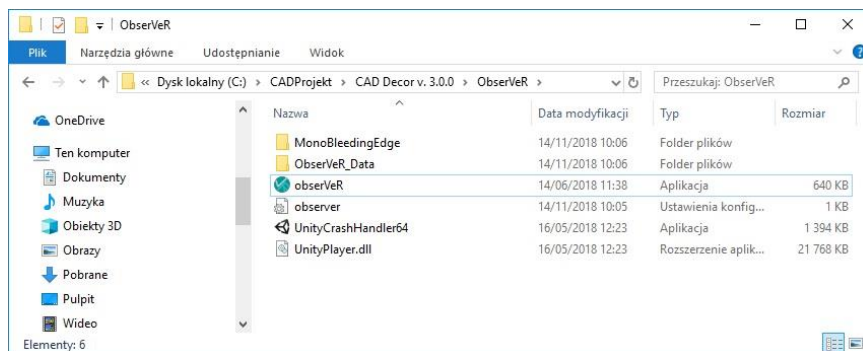

Fig. 7 – obserVeR application on disk - in the place of CAD Decor installation
- by running the file obserVeR.exe in the main program location (CAD Decor PRO, CAD Decor or CAD Kitchens) (Fig. 7);